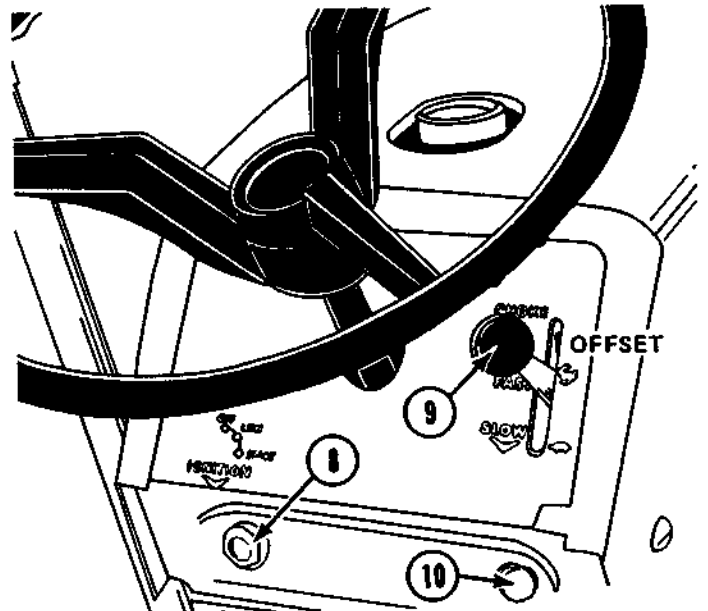

Figure 6
## 8 IGNITION AND STARTER SWITCH – Figure 6
## 9 THROTTLE-CHOKE CONTROL LEVER – Figure 6
## 10 LIGHT SWITCH (Optional) – (Figure 6)
5. Raise throttle choke control lever (9) Figure 6, past the offset in the slot to the "choke" position.
6. Turn ignition key (8) shown in Figure 6 clockwise all the way. Release key as soon as the engine starts and gradually lower the throttle-choke control lever past the offset until the engine runs at 1/2 throttle.